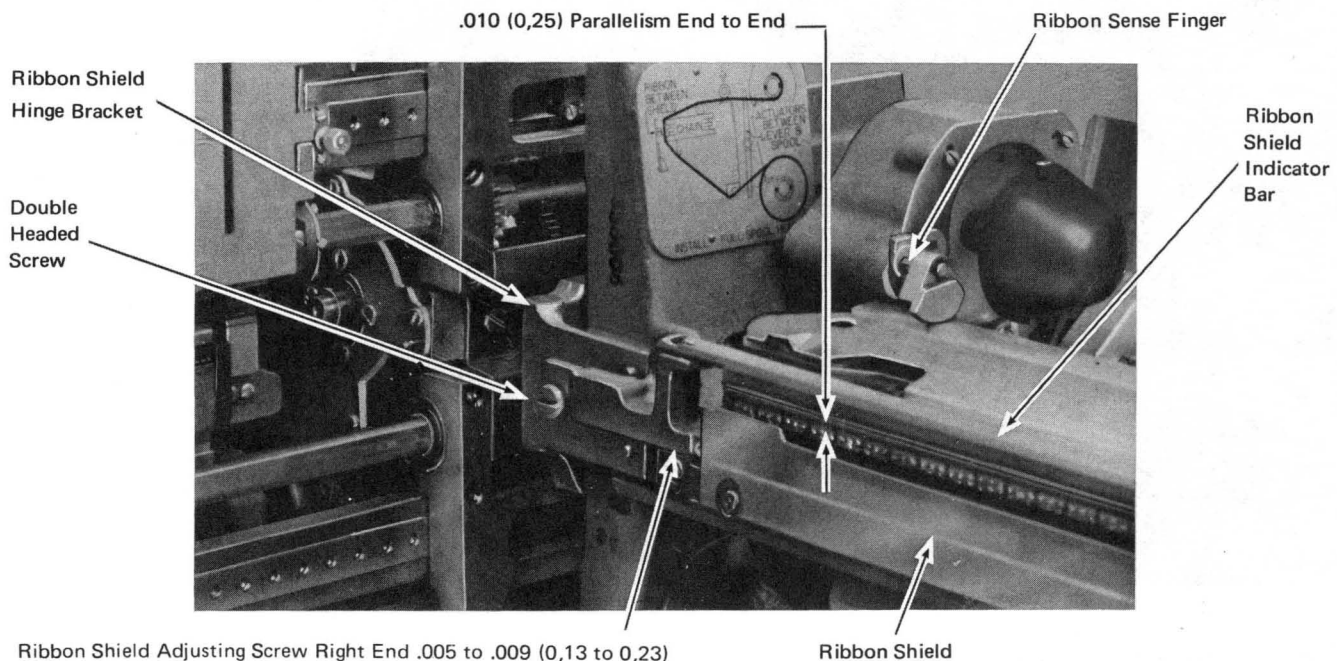

Figure 4-55. Ribbon Shield (Right End)
2. Loosen the setscrews in the cams (Figure 4-55) and rotate cam 2 until switch 2 is just transferred (n/o points, opened). Be sure the cam is properly aligned with the switch. Tighten the setscrew.
1. Adjust the collars on the T-frame hinge pin to establish the parallel relationship of within .010 in. (0, 25 mm) between the lower edge of the ribbon guide bar lip and the top edge of the projection on the upper carriage ribbon guide (Figure 4-55).